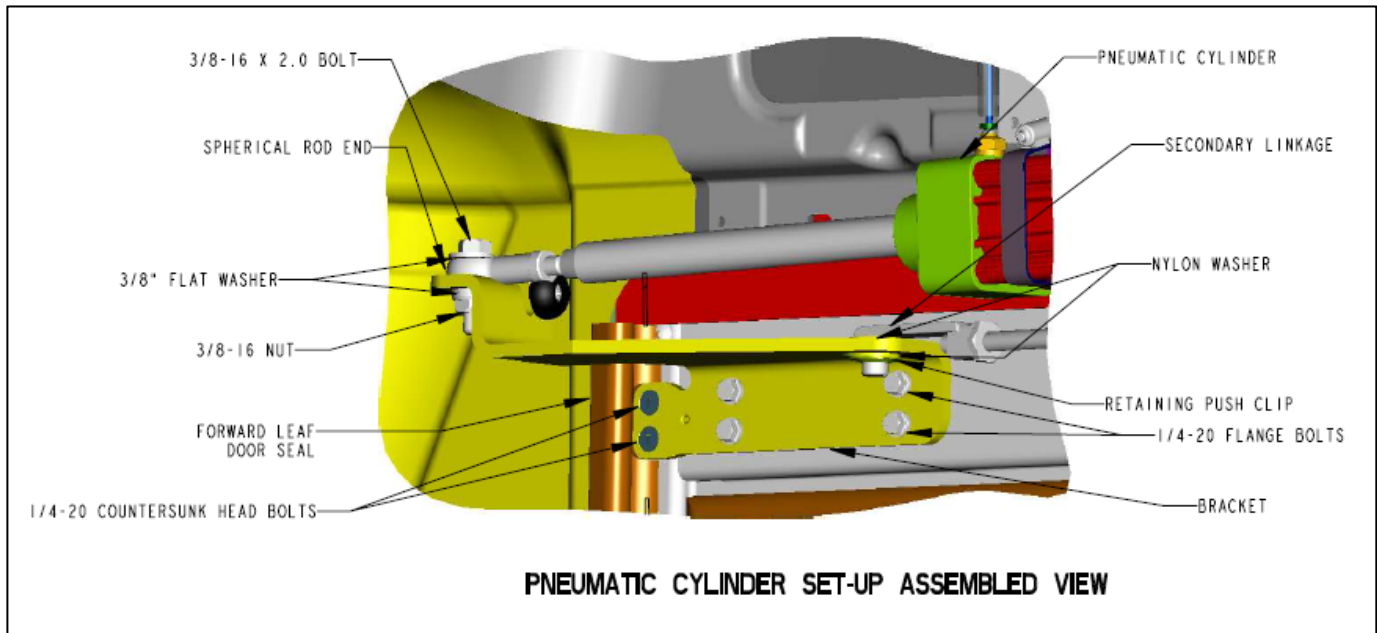

Figure 5: Pneumatic door reassembled with new bracket
- 17) Re-assemble the pneumatic cylinder with the new bracket using the 3/8" hardware removed earlier. See **Figure 5**.